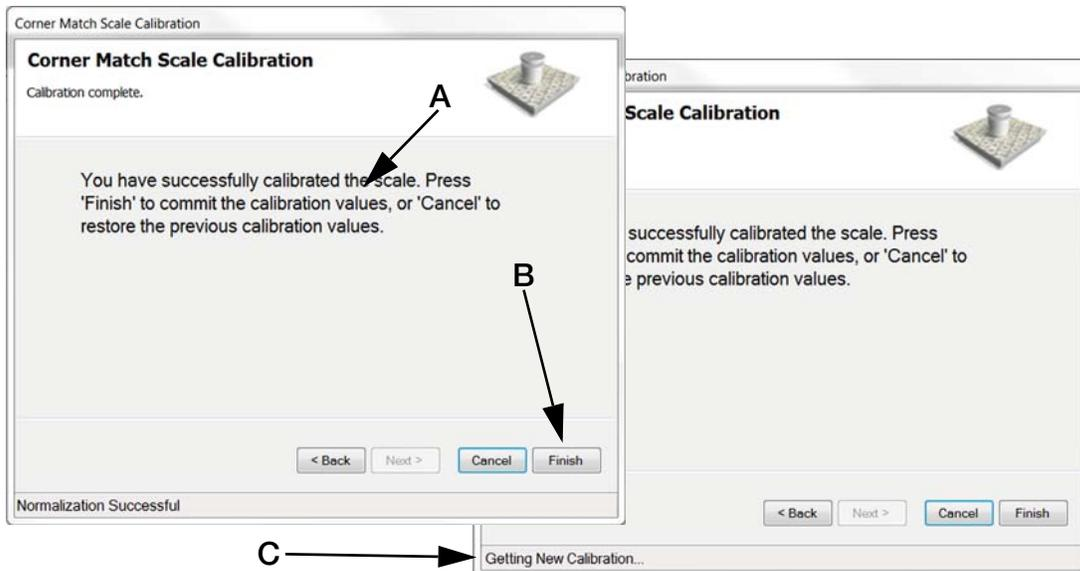

Figure 4-27. Finish Calibration
11. A message that you have successfully calibrated the scale will appear (Fig 4-27 A) then press *Finish* (Fig 4-27 B).
A message appears in the bottom of the frame “Getting New Calibration” (Fig 4-27 C). When done the pop up box will disappear and calibration is complete.